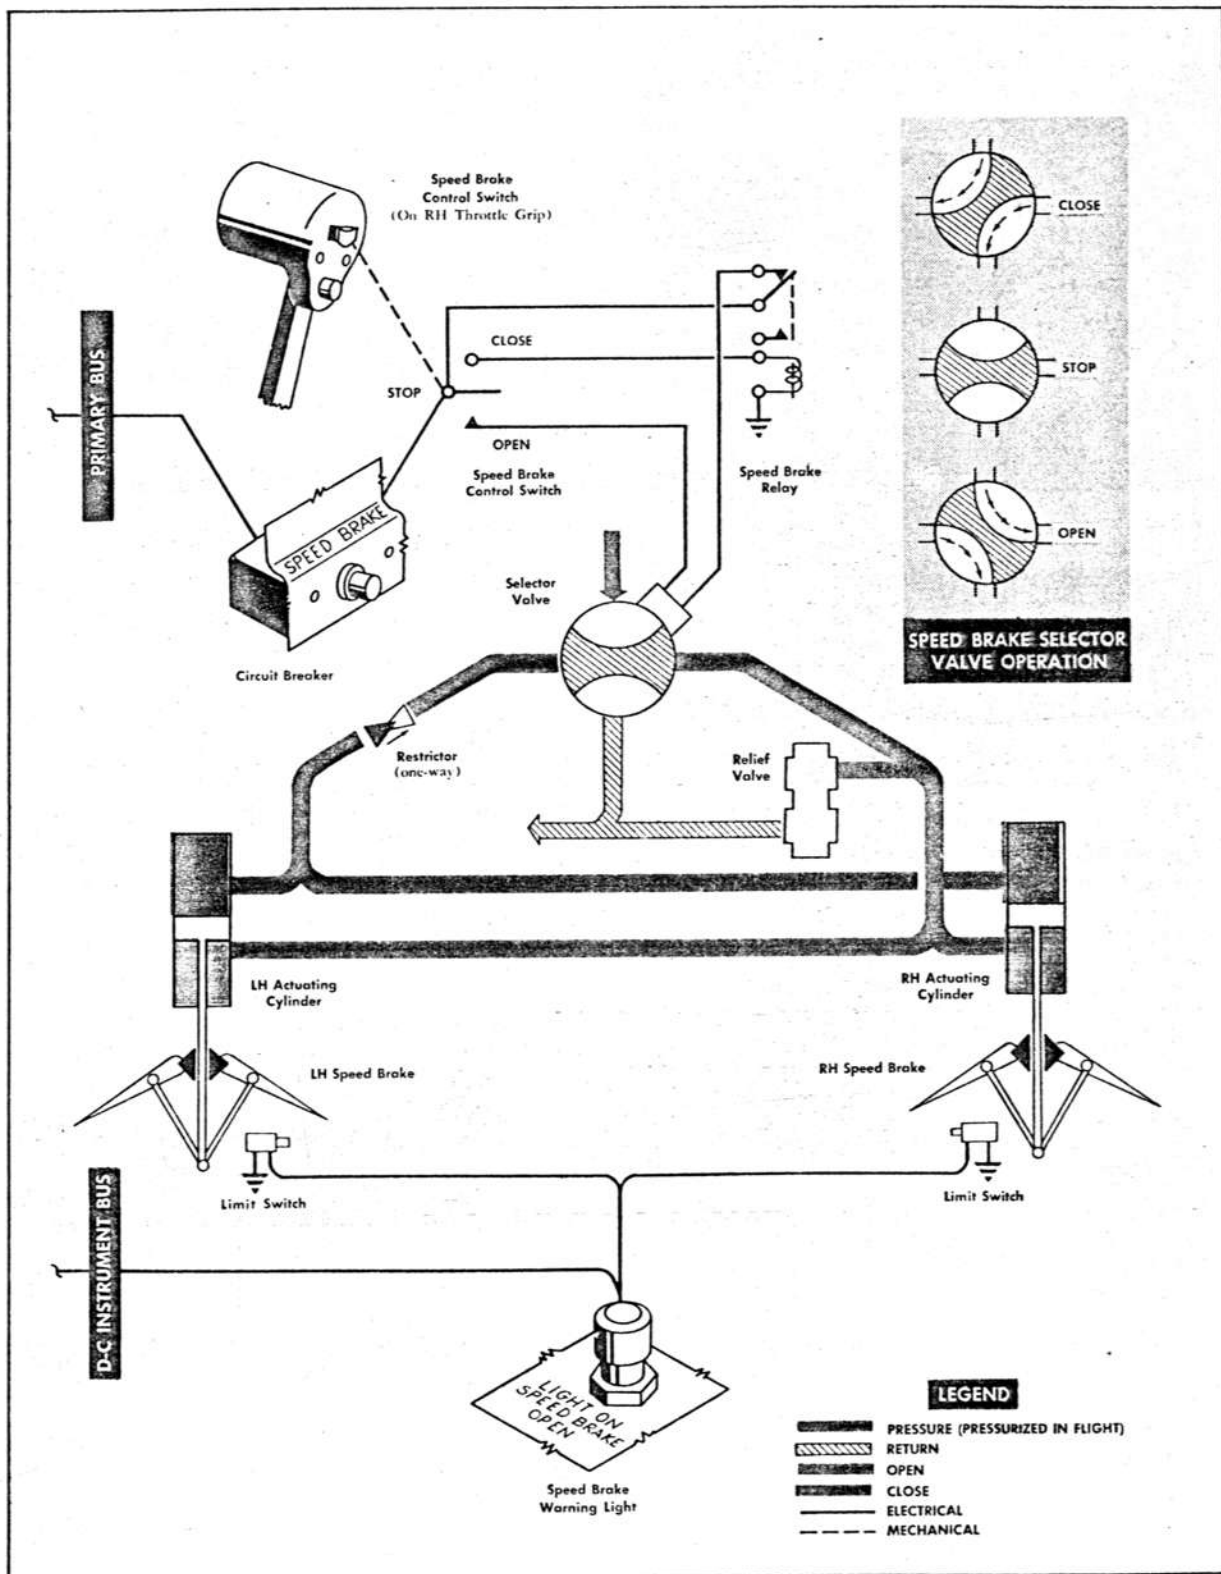

Figure 1-26. Speed Brake Control System Schematic
**GENERAL.** (See figure 1-26.) In the closed position, the split-flap speed brakes form the trailing edge of the wing between the fuselage and the vertical fin. In the open position, they restrict excessive diving speeds and slow down the airplane. The speed brakes are controlled by a thumb switch on the right-hand throttle. The switch actuates the solenoids on a hydraulic selector valve, which, in turn, regulates hydraulic power from the utility hydraulic system to actuating cylinders at each speed brake. An equalizer linkage in each brake provides equal and opposite movement of the upper and lower surfaces.